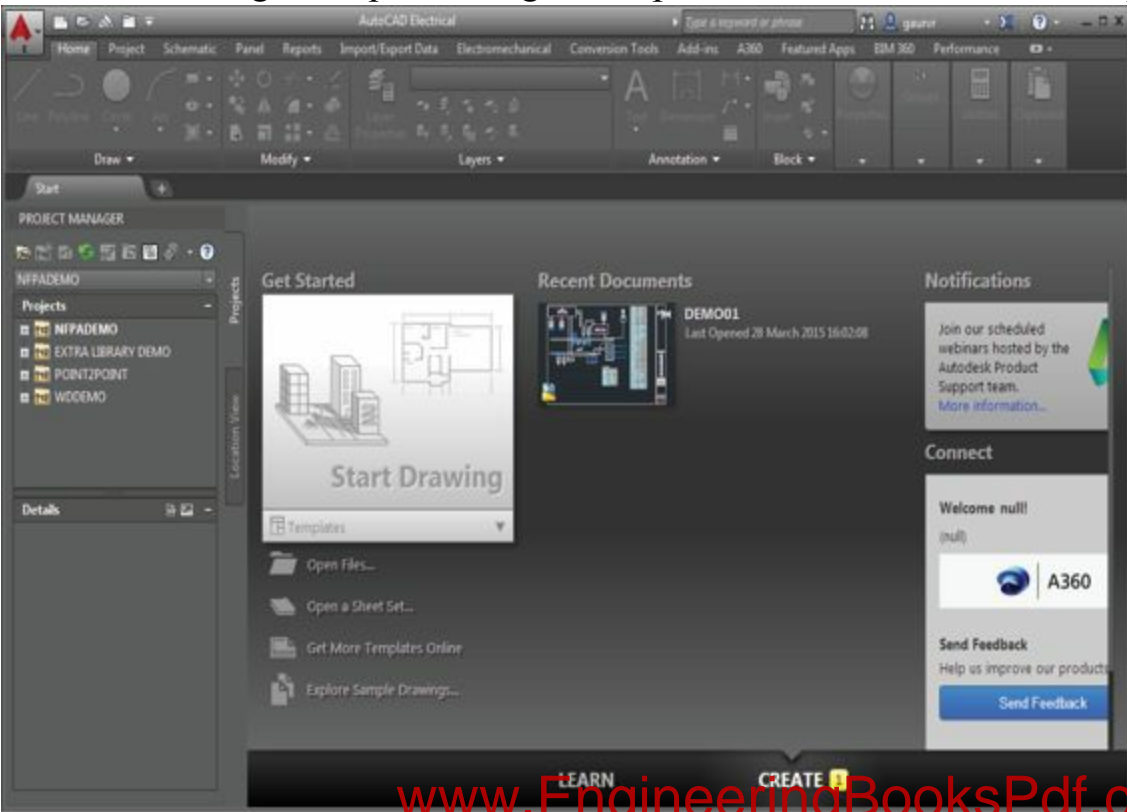

Figure-2. AutoCAD Electrical interface
- Click on AutoCAD Electrical 2016 link button in the list. AutoCAD Electrical will initialize and once the background processing is complete, the interface will be displayed as shown in Figure-2.